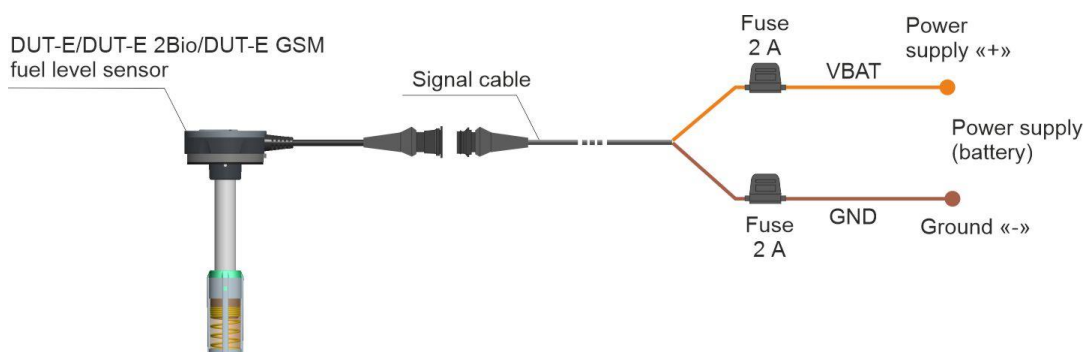

Figure 15 — Sensor electrical connection to the power source
3) When connecting sensor to onboard electrical network of Vehicle, use **fuses** from delivery set in accordance to scheme of connection (see figure 15). Nominal fuse current is not more than 2 A.